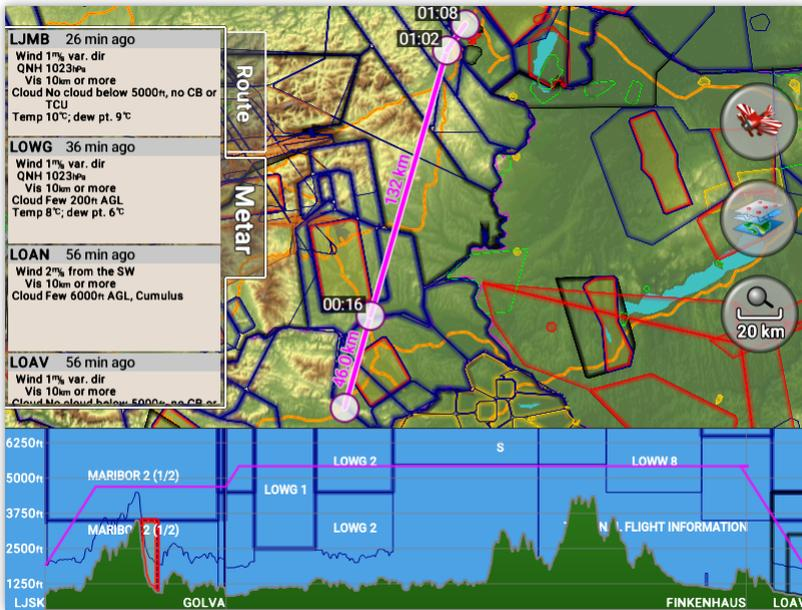

Figure 40: Example of METAR information along the route.
- A touch on the **Metar** tab will collect current METAR information from airfields close to the route and display this in a list form. Either an Internet access or an active FIS-B link connection is required for this command. Figure 40 shows an example.